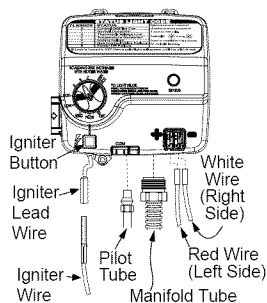
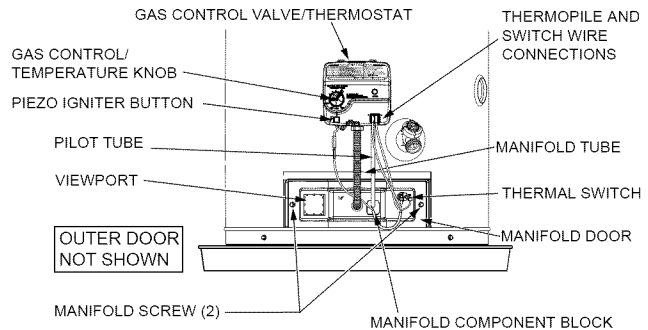

FIGURE 33.
FIGURE 34.
5. Disconnect the pilot tube (7/16" wrench), the igniter wire from the igniter lead wire, and manifold tube (3/4" wrench) at the gas control valve/thermostat. (Figure 33). **NOTE:** L.P. Gas systems use reverse (left-hand) threads on the manifold tube.
6. Use needle nose pliers to disconnect the white (-) thermopile wire from the gas control valve/thermostat (Figure 33). Then disconnect both red thermal switch wires from the thermal switch on the old manifold door. (Figure 34).
8. Reconnect the igniter wire (Figure 33).
4. Disconnect the igniter wire from the igniter lead wire. Use needle nose pliers to disconnect the red (+) and white (-) thermopile wires. Disconnect pilot tube (7/16" wrench) and manifold tube (3/4" wrench) at the gas control valve/thermostat (Figure 33). **NOTE:** L.P. Gas systems use reverse (left-hand) threads on the manifold tube.